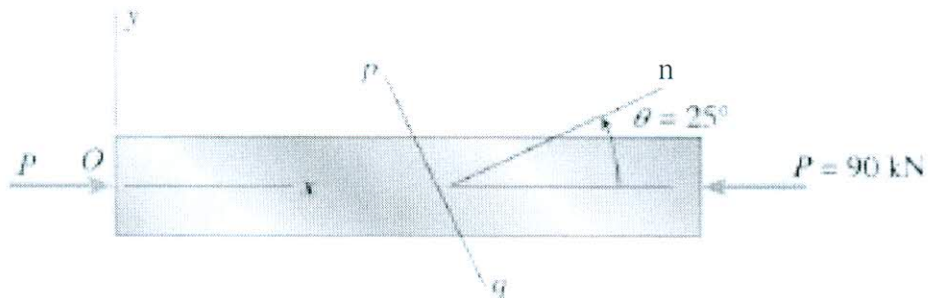

Figure 4
- [b] The bar in Figure 4 is subjected to a compression force $P = -90$ kN. The cross-sectional area of the bar is 1200 mm². Estimate the normal stress and shear stress on the p-q face and on the t face of an element oriented at angle $\theta = 25^\circ$.